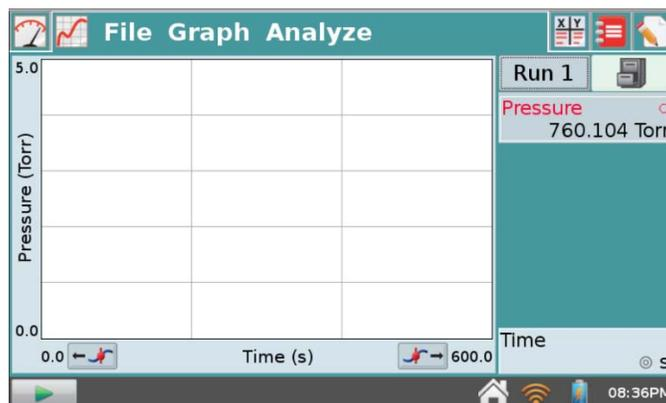

Figure 8 – LabQuest data acquisition display screen.
- Tap the graph  icon on the upper right hand corner of the LabQuest screen to go to the data acquisition display screen (Fig. 8).
- Using the stylus tap the ‘File’ menu at the upper left (see Fig. 8) and tap the ‘Save...’ menu. A dialog box will appear (see Fig. 9). Tap the word ‘untitled’ and a keypad will appear (see Fig.10). Enter the filename ‘Procedure3-2’ and tap the ‘Done’ button at the lower right of the screen. The filename will appear at the top of the LabQuest ‘Save’ screen (see Fig. 11). Tap the ‘Save’ button at the lower right of the LabQuest screen.
- From the data acquisition display screen on the LabQuest (see Fig. 8) tap the file cabinet icon (). You will see that the ‘Run’ number has increased (see Fig. 12).
- Using the stylus tap the ‘File’ menu at the upper left (see Fig. 8) and tap the ‘Save...’ menu. A dialog box will appear (see Fig. 9). Tap the word ‘untitled’ and a keypad will appear (see Fig.10). Find the filename ‘Procedure3-2’ on the dropdown list and tap it. Then, tap the ‘Save’ button at the lower right of the LabQuest screen. A dialog box will warn you about overwriting this file. Tap the ‘Overwrite’ button at the lower right of the LabQuest2 screen.
- From the data acquisition display screen on the LabQuest (see Fig. 8) tap the file cabinet icon (). You will see that the ‘Run’ number has increased (see Fig. 14).
- Using the stylus tap the ‘File’ menu at the upper left (see Fig. 8) and tap the ‘Save...’ menu (see Fig. 9). A dialog box will appear. Tap the word ‘untitled’ and a keypad will appear (see Fig. 10). Enter the filename ‘Procedure3-5’ and tap the ‘Done’ button at the lower right of the screen. The filename will appear at the top of the LabQuest ‘Save’ screen (similar to Fig. 11). Tap the ‘Save’ button at the lower right of the LabQuest screen.